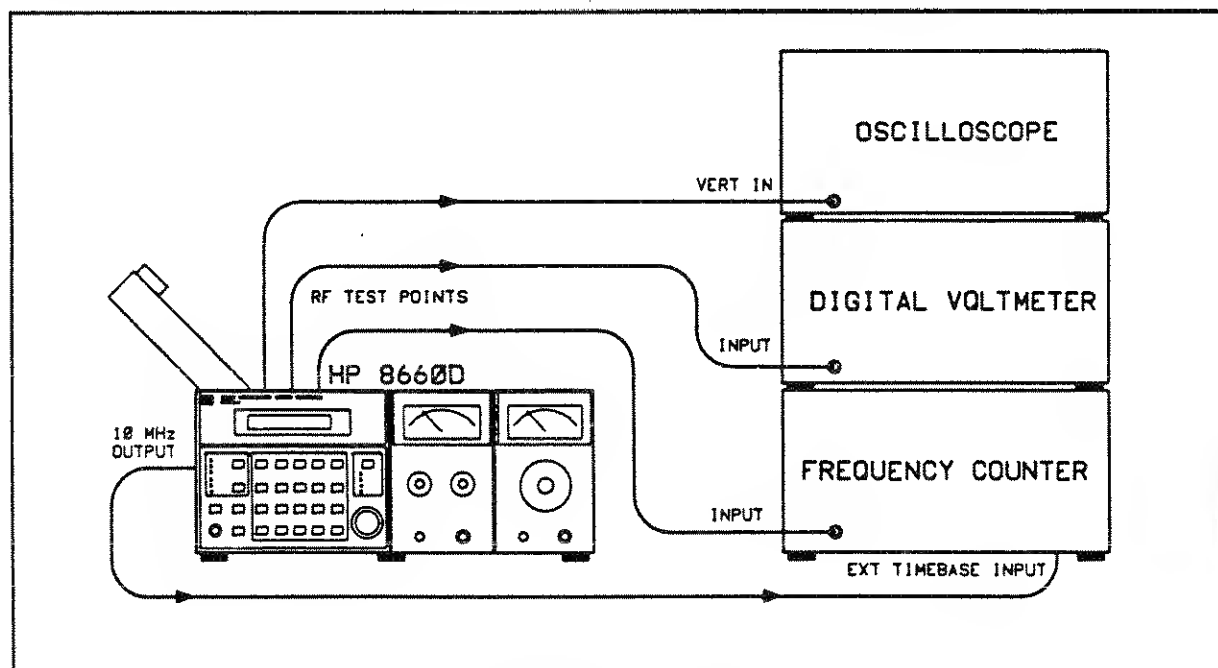

Figure 5-21. SL2 Test Setup
1. Set up the test equipment as shown in Figure 5-21.